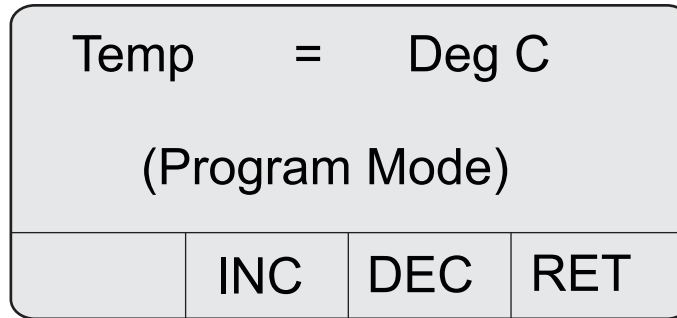

Figure 25 Temperature screen
1. Press **2 (DSP)** on the main screen and then repeatedly press **2 (NXT)** to display the Temperature screen (refer to Figure 25).